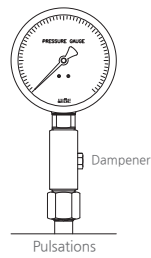

Figure. 3
- 5) In case of pressure pulsation or impulsive pressure is applied to the gauge, please use after install gauge protector. (Figure. 3, 4)